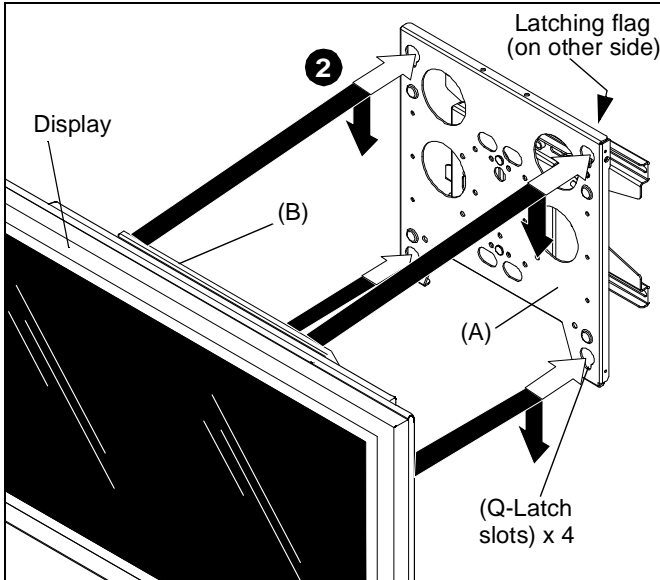

Figure 8
1. Attach PSB interface bracket (B) to display using the instructions included with the PSB package.
2. Using two people, slide display with attached interface bracket (B) down over the four slots in the faceplate of the TPP (A). Make sure all four mounting buttons engage all four Q-Latch slots in the TPP (A). (See Figure 8)